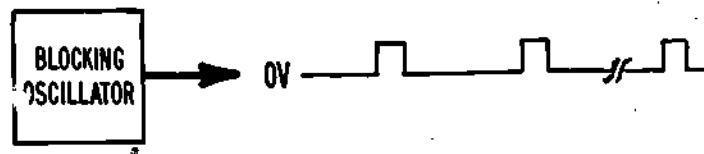

Figure 2
3. The drawing shown in Figure 2 is a block diagram for a blocking oscillator together with possible output waveforms.